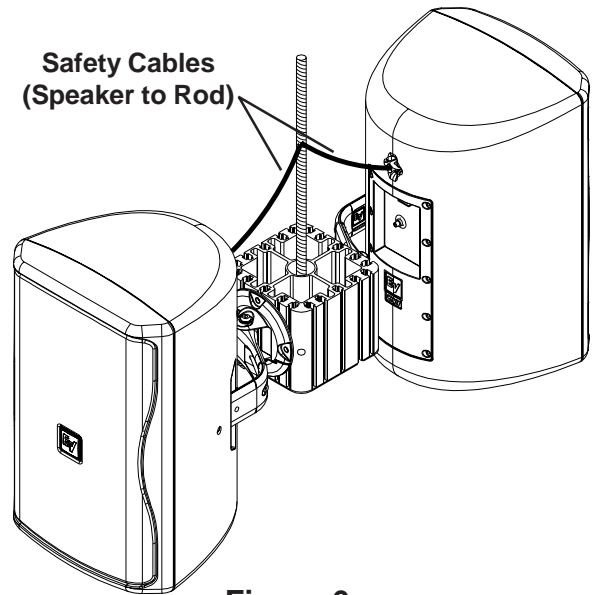

Figure 6a:
4. It is strongly recommended that safety cables be attached from each loudspeaker to the top of the array bracket for added safety. Loop around the threaded rod and around the safety suspension point of the loudspeaker (Figure 6a).